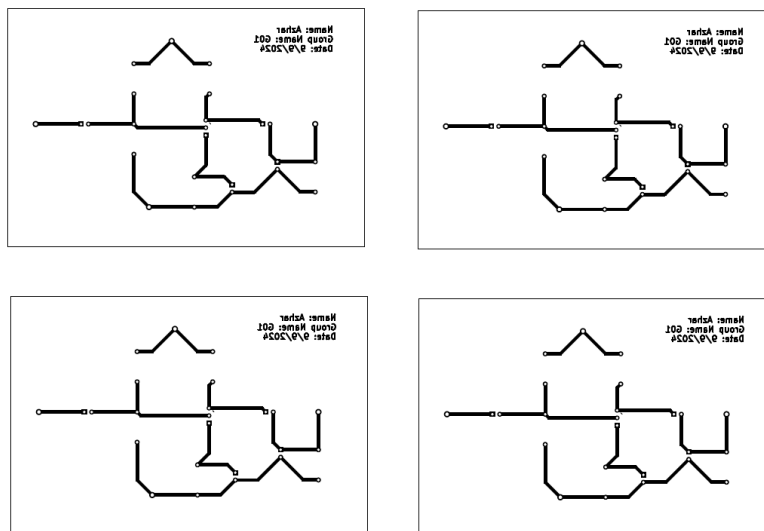

Figure 3: 4 PCB layout design in single A4 size
- Print 4 PCB layout design in single A4 size as shown in Figure 3. Hint: edit SVG file using open source application inkscape (<https://inkscape.org/>) or adobe illustrator to paste 4 PCB layout in single A4 size.